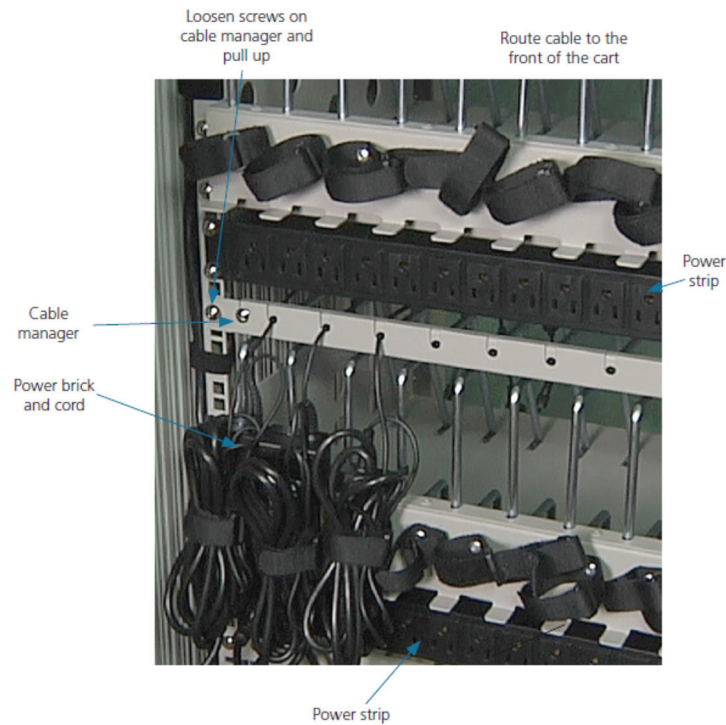

Figure 4-2. Fastening the power cord wrap and routing the cable.
1. Attach the wrapped cord and power brick to the back of the shelf using the hook-and-loop strap. Keep some extra cable unwrapped to plug into the power strip. See Figure 4-2.
4. Route the device side of the charging cable to the front of the cart and repeat step 2 for the front cable manager (see Figure 4-2).